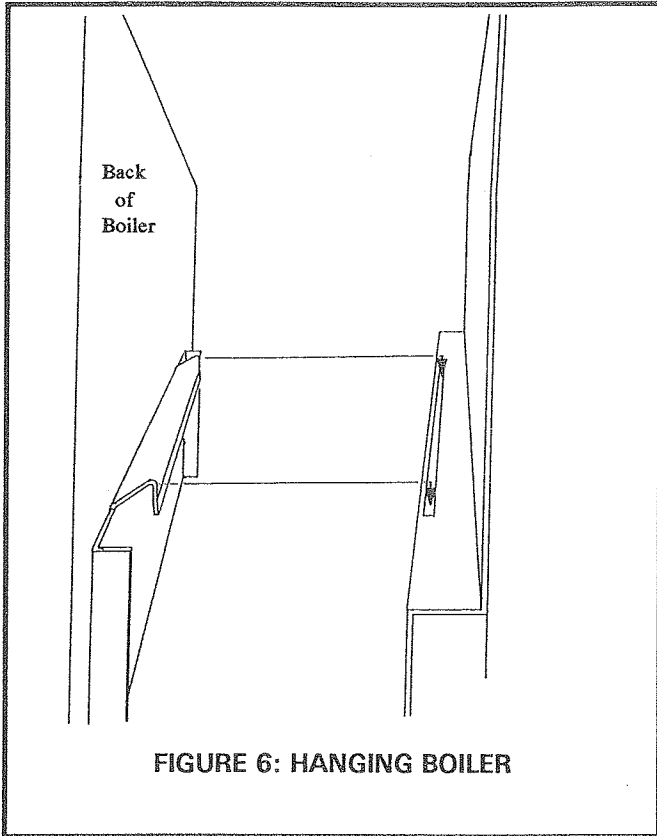

FIGURE 6: HANGING BOILER
- b) Lift boiler and place hook on the rear of the boiler into the slot on the wall mounting plate (Fig. 6).